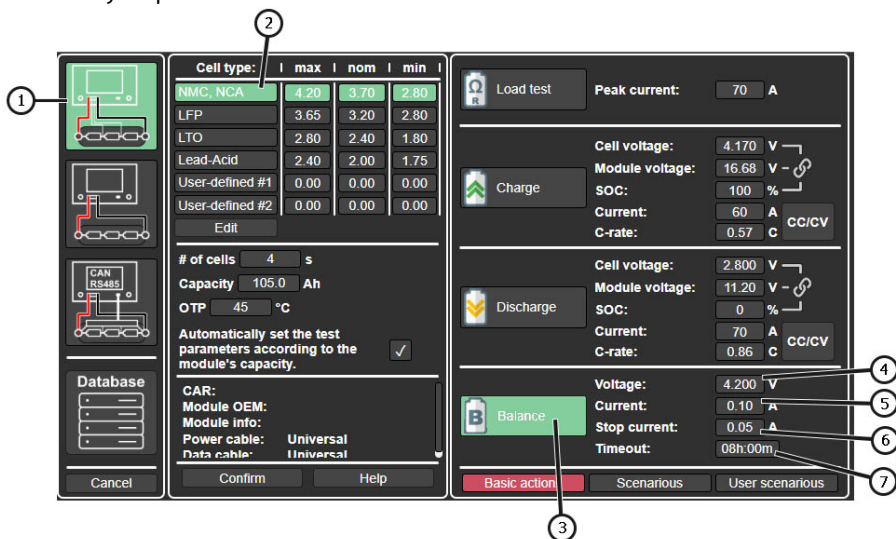

Figure 18
**2. Go to the Test Mode Selection and Parameter Setup Menu** by pressing the “Test setup” button. Configure the balancing parameters (the items below correspond to positions in Figure 18):